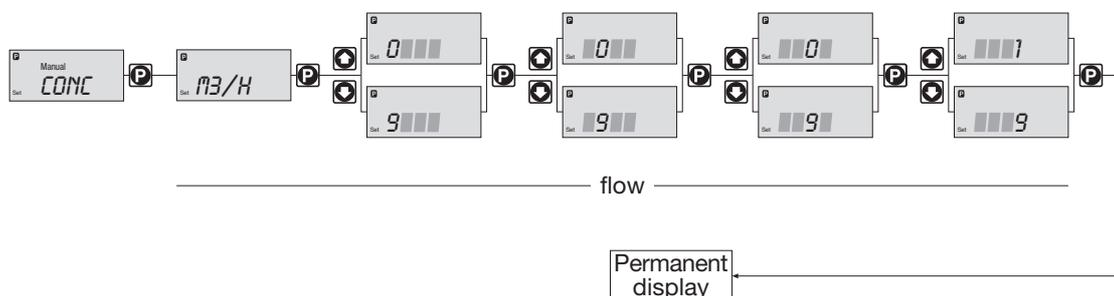

Fig. 4: Extract from SET menu
- ▶ Select the CONC menu in the Set menu (see Fig. 4)